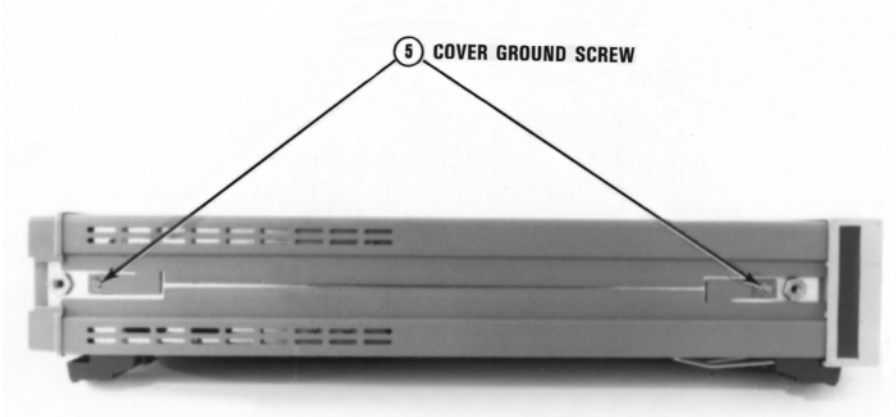

Figure C-3 Covers ground screws
- 7 Use the #TX10 Torx driver to remove the top and bottom covers ground screws, as shown in **Figure C-3**.
- 7 Refer to Figure C-3. Turn the instrument so its left side faces you. Use the #TX10 Torx driver to reinstall the top and bottom covers ground screws.